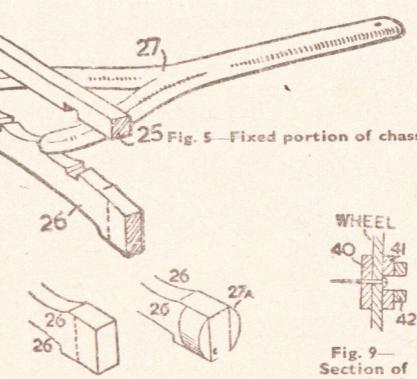

Fig. 4—Driver's seat
The driver's seat is shown at Fig. 4 and is made of an end framework of wire, fitted to the seat portion (rounded at the front). The back (22) is fitted to the wire near the top by boring tiny holes in the wood and holding the part in place with strong thread drawn through and tied out of sight. Note the two